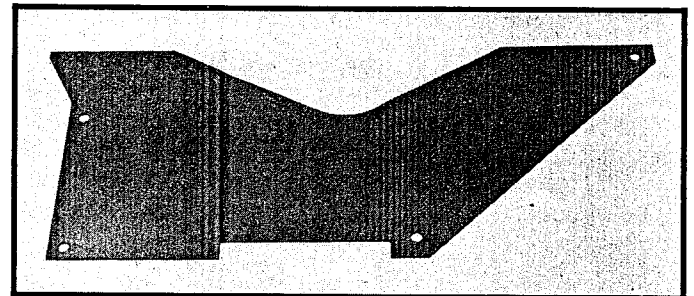

Fig. 3
6. Using a band saw, cut the side plate cover as shown in Fig. 3. After cutting, be careful to remove the burrs and sharp edges along its cutting edge, and reinstall the side plate cover inside the saw with the four slot head screws that were removed in Step 4.